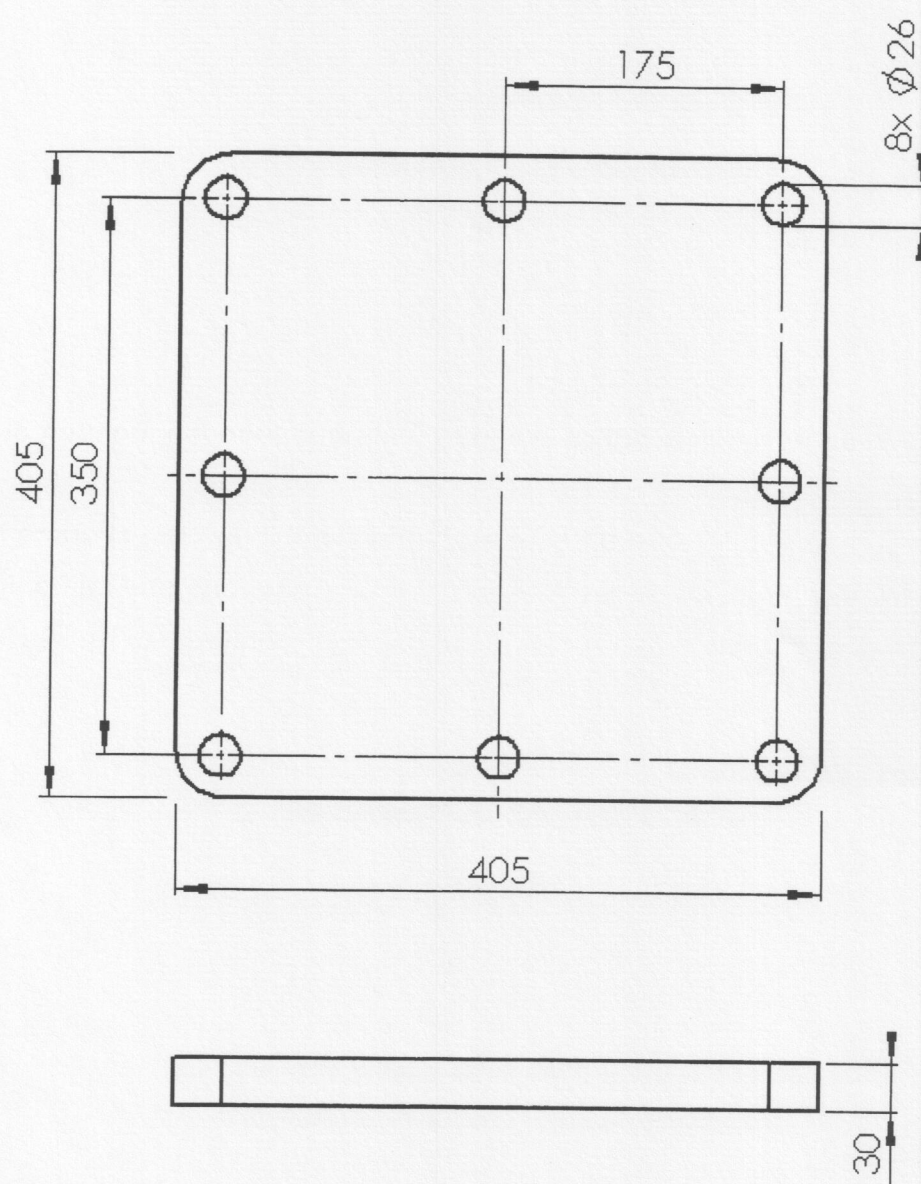

Figure 5. Mounting plate dimensions
Strength class for mounting bolts of slewing device-support legs (pos. 1, fig.5) and support legs-trailer (pos. 2, fig. 5) has to be 10.9 (DIN912) or higher. Use self-locking nuts M24. The tightening torque for the mounting bolts of the crane (pos. 1, fig. 5) and supporting legs (pos. 2, fig. 5) is 900 Nm.
Use the mounting plate (fig. 5) then mounting the loader to the tractor's frame or trailer different than Palms machine. Use mounting plate with thickness not less than 30 mm. Make sure that there will be enough space at mounting point for service access.